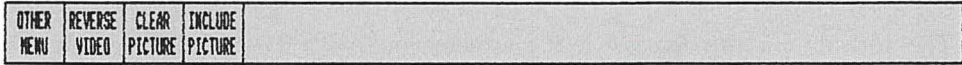

Figure 4-2
1. Press SET-UP. The Set-Up Menu will appear (see Figure 4-2).